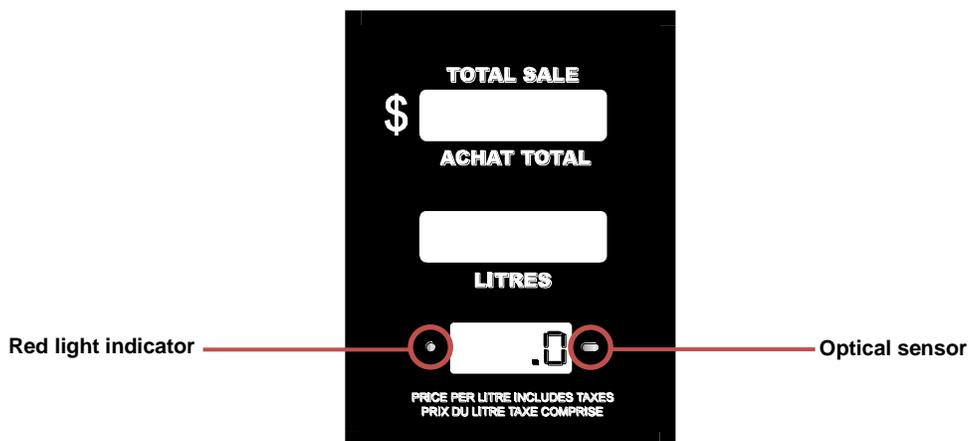

Figure 2: The Micon display
3. Aim the Communicator to the optical sensor, located to the right of the PPU display; see *Figure 2* below.
2. Aim the Communicator to the optical sensor, located to the right of the PPU display; see *Figure 2*.